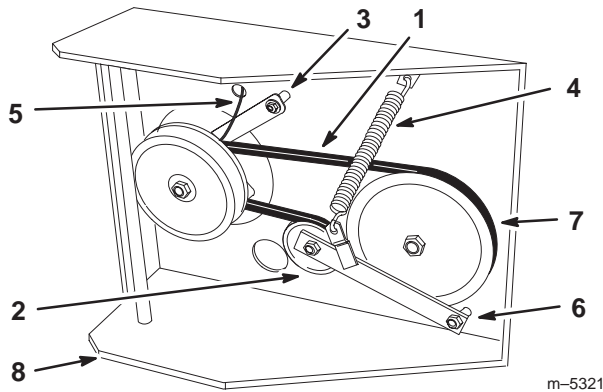

Figure 59
4. Remove clutch retainer from the engine deck (Fig. 59).
5. Unhook tension spring from side of frame (Fig. 59).
8. Torque pivot bolt to 35-40 ft. lb. (47-54 N.m). Install tension spring between idler arm and frame bracket (Fig. 59).
9. Install clutch retainer to the engine deck (Fig. 59).